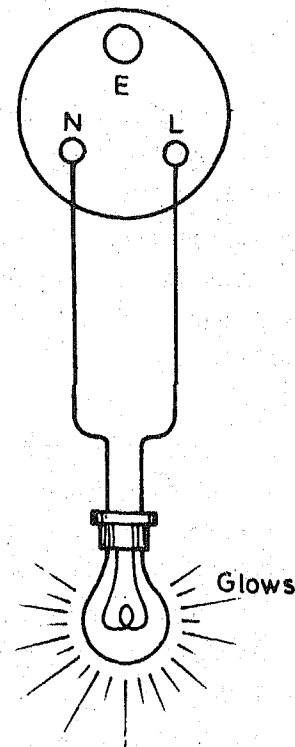

Fig.9.3
- (i) For checking presence of electricity at 3-pin socket, connect the test lamp as shown in Fig. 9.3. The glow indicates that the electricity is present.